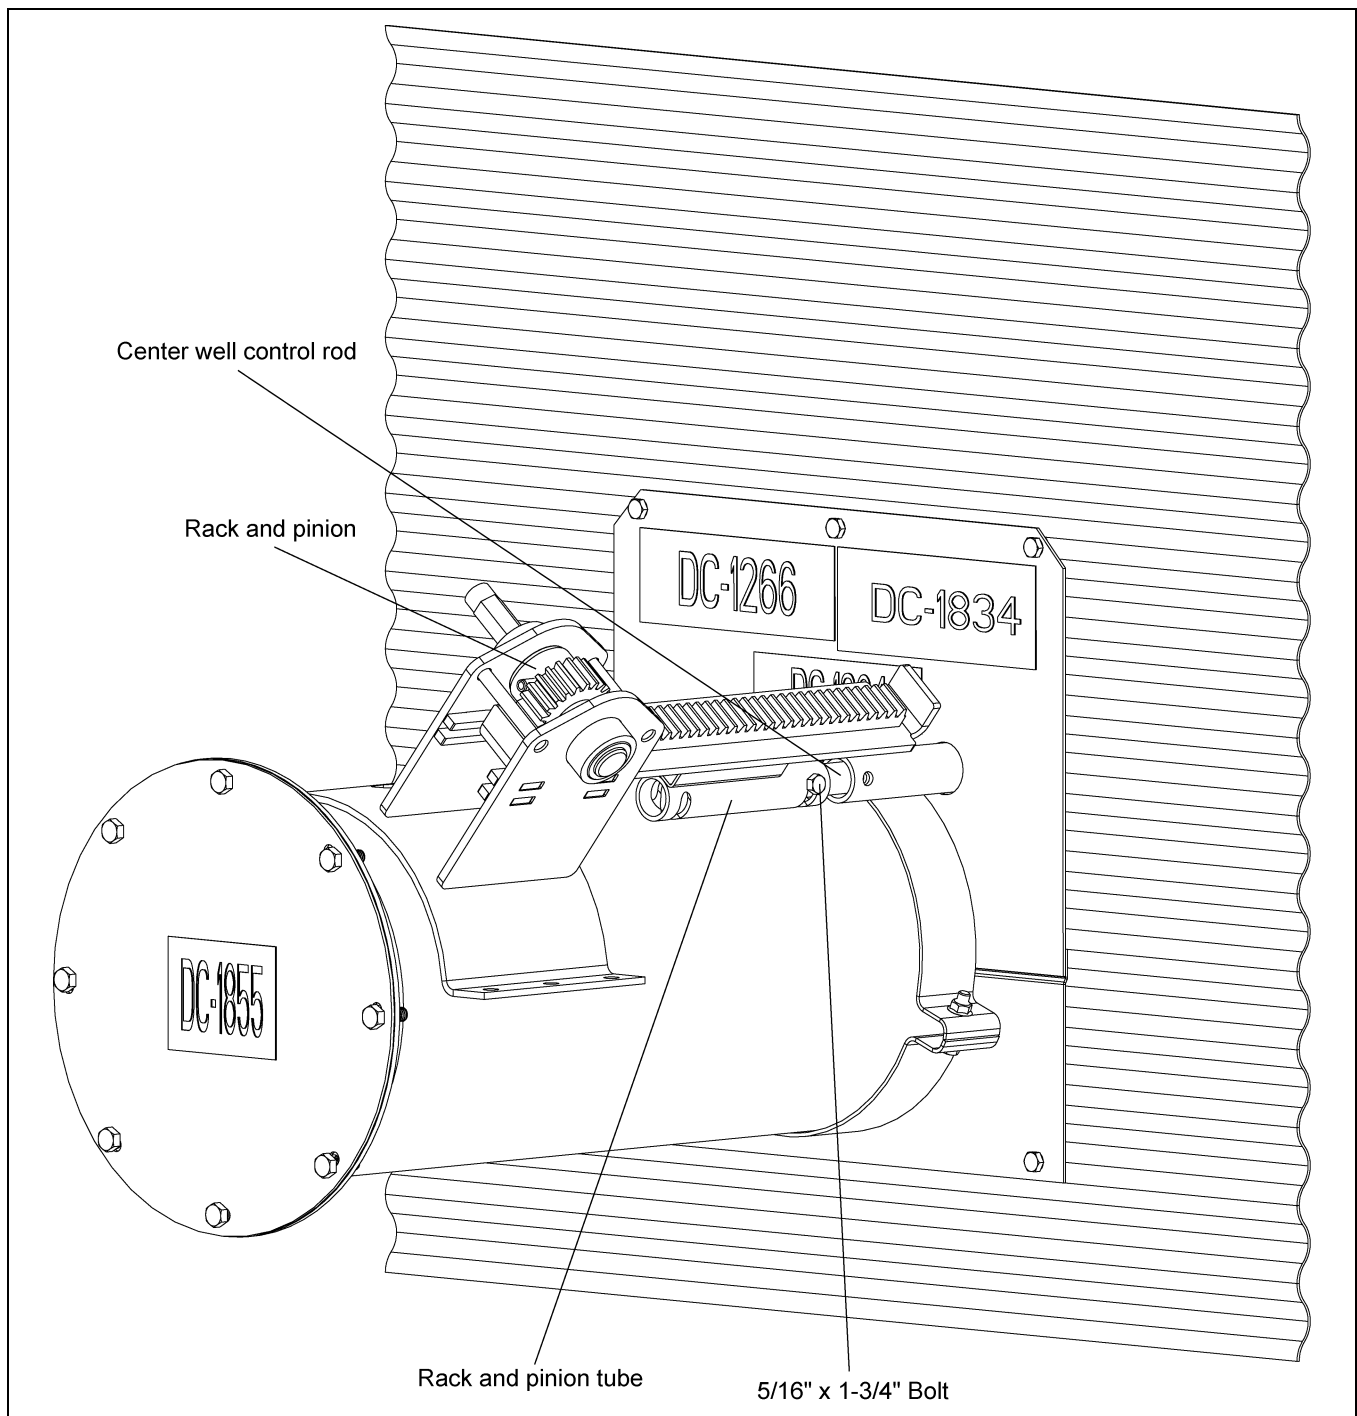

Figure 4P 8" and 10" Systems
2. Slip rack and pinion tube over center gate control rod and align holes, making sure rack and pinion is fully extended toward bin wall. (See Figure 4P.)
3. With rack and pinion resting on unload tube and tube holes aligned, insert one 5/16" x 1-3/4" bolt through the rack and pinion tube and center gate control rod. Fasten together with a nut. (See Figure 4P.)